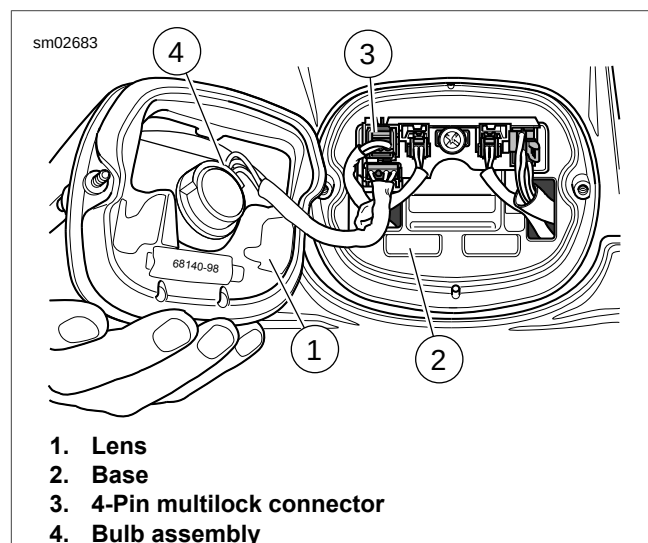

Figure 7-35. Tail Lamp: FLSTC, FLSTF/B
1. See Figure 7-35. Remove two screws and lens (1) from base.
2. Press locking tab and remove 4-Pin multilock connector (3) from circuit board.